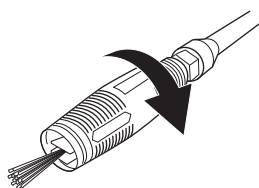

Fig. 11
- > Turn the variable spray nozzle (18) to adjust the water jet according to the surface you want to clean. The double arrow on the nozzle indicates the direction of the desired application (Figs. 11 - 12).